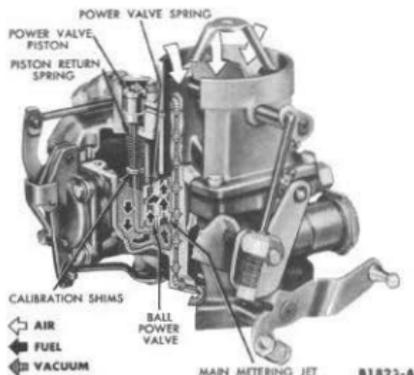

FIG. 32—Power Valve and Fuel Enrichment System
**POWER FUEL SYSTEM.** When the engine is required to deliver more power to meet an increased road load demand or wide-open throttle operation, the carburetor must deliver a richer fuel-air mixture than supplied during the operation of the main fuel system. When the engine is running under a high power demand, intake manifold vacuum is low. The vacuum below the carburetor throttle plate approximates intake manifold vacuum. The carburetor power valve (Fig. 32) will open when the manifold vacuum drops below a predetermined value. The fuel-air mixture is thus automatically enriched to meet the increased engine power demands.